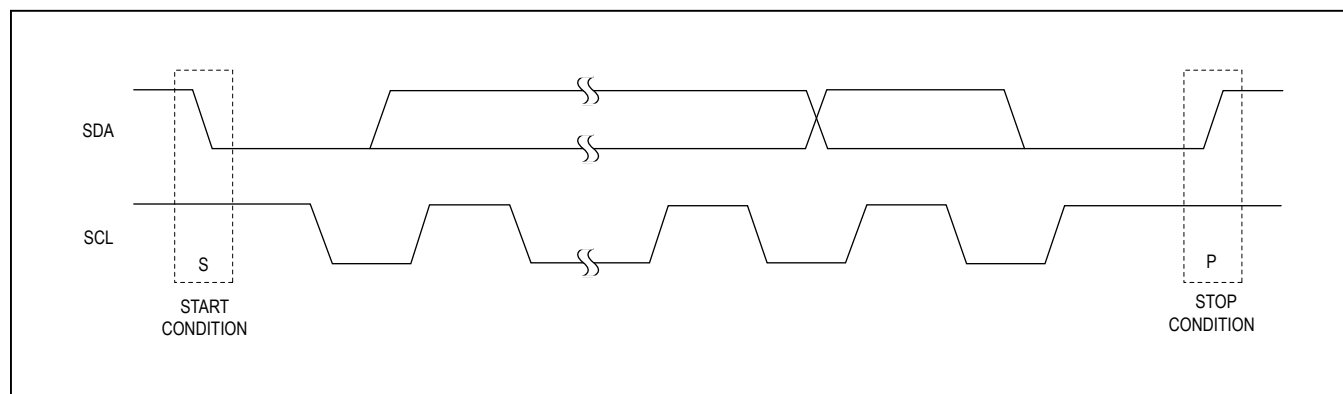

Figure 31. START and STOP Conditions
Both SCL and SDA remain high when the interface is not busy. A master signals the beginning of a transmission with a START (S) condition by transitioning SDA from high to low while SCL is high (see Figure 31). When the master has finished communicating with the slave, it issues a STOP (P) condition by transitioning SDA from low to high while SCL is high. The bus is then free for another transmission.